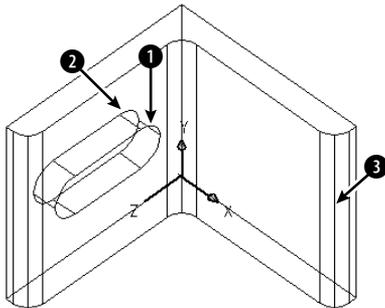

Figure 24-42: The mounting bracket.
3. If the Solids Editing toolbar is not displayed, right-click any toolbar and choose Solids Editing. This is a mounting bracket, shown in Figure 24-42. Note the UCS icon, which is at 0,0,0.